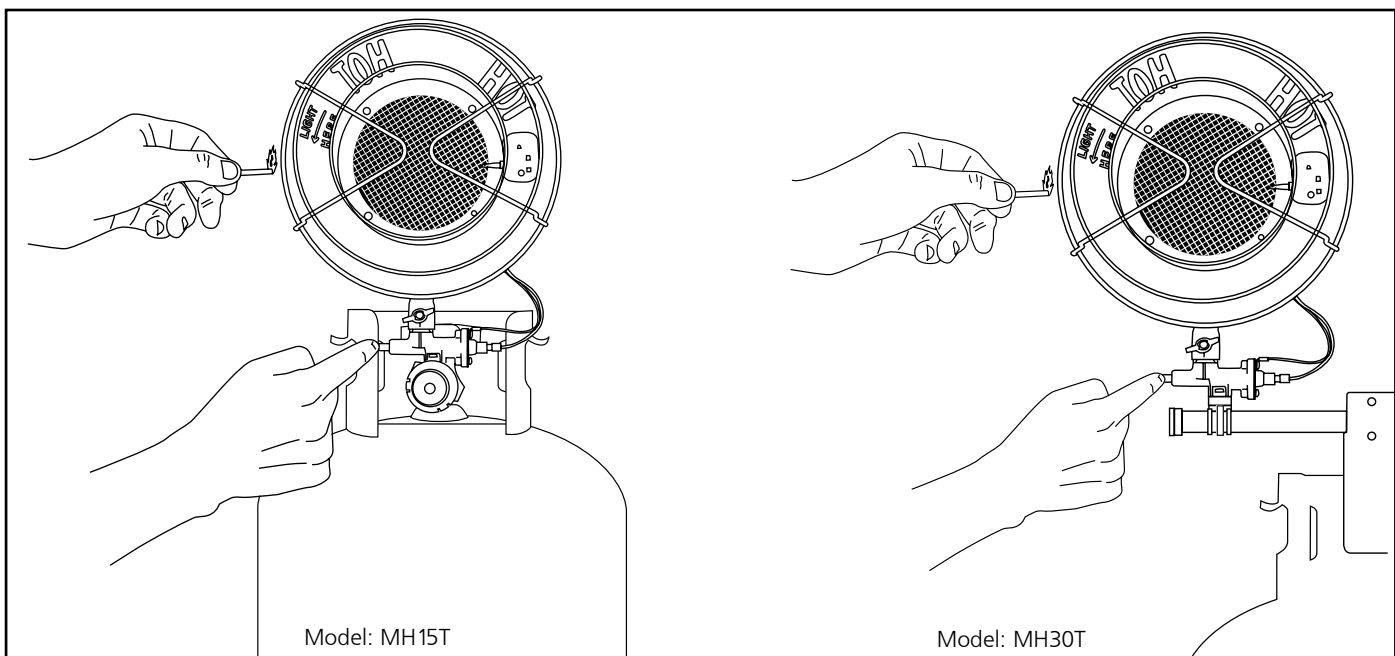

Figure 5.
- D.** To light heater, place a lit match across the mesh screen where you see "light here" on the reflector. (See Figure 5) THEN push in valve button on Safety Shutoff Valve. After the heater is lit, continue to hold valve button in for 30 seconds, then release the button slowly. **CAUTION:** DO NOT PUSH IN VALVE BUTTON BEFORE INSERTING LIT MATCH. NEVER STAND IN FRONT OF HEATER WHILE LIGHTING. REPEAT STEP "D" FOR EACH BURNER.